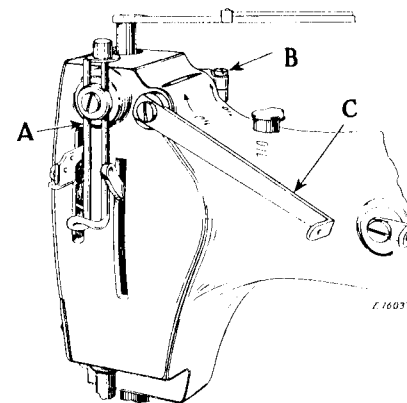

Fig. 11.
The slack thread regulator (C, Fig. 11) on the front of the machine should be set so that when the looper is shedding the needle loop on its
backward stroke, the thread will not snap from the point of the looper nor be drawn through the tension discs. To set the slack thread regulator, it is best to start with the regulator in a low position and then continue raising the regulator until the looper backs out of the needle loop with a little tension on the thread. To make this adjustment, loosen the clamping screw (B, Fig. 11) and raise or lower the slack thread regulator as may be required, then securely tighten the clamping screw (B).
The auxiliary thread take-up (A, Fig. 11) at the front of the machine should be set so that it takes up the slack of the needle thread after the looper has shed the needle loop and as the needle bar finishes its downward stroke and the stitch is set. To change the position of